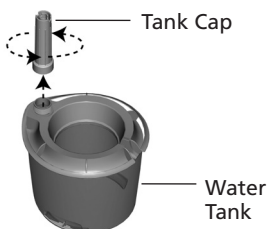

Figure 4
7. Unscrew the Tank Cap by twisting it counterclockwise and fill the Water Tank with cool water. **NEVER USE HOT WATER.** See Figure 4.